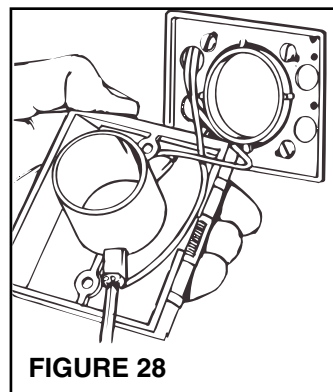

FIGURE 28
10. Attach the low voltage wires to terminal screws on back of wall inlet (Figure 28).